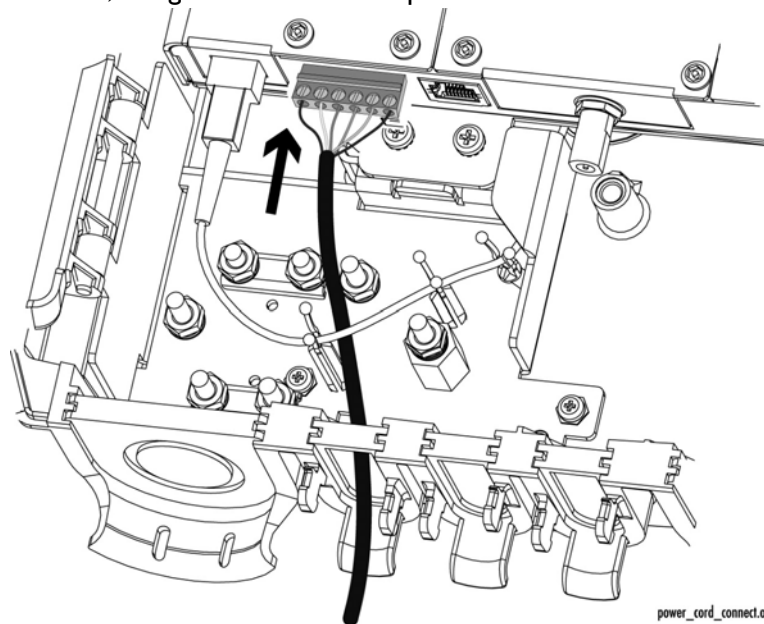

Figure 7. Plugging in the DC Terminal Block (Pigtail already installed)
Connect the pigtail (installed as part of the Enclosure installation procedure) to the WAN fiber port of the electronics unit. Refer to Figure 7.
4. Plug the terminal block into the DC power socket, as shown in Figure 7.